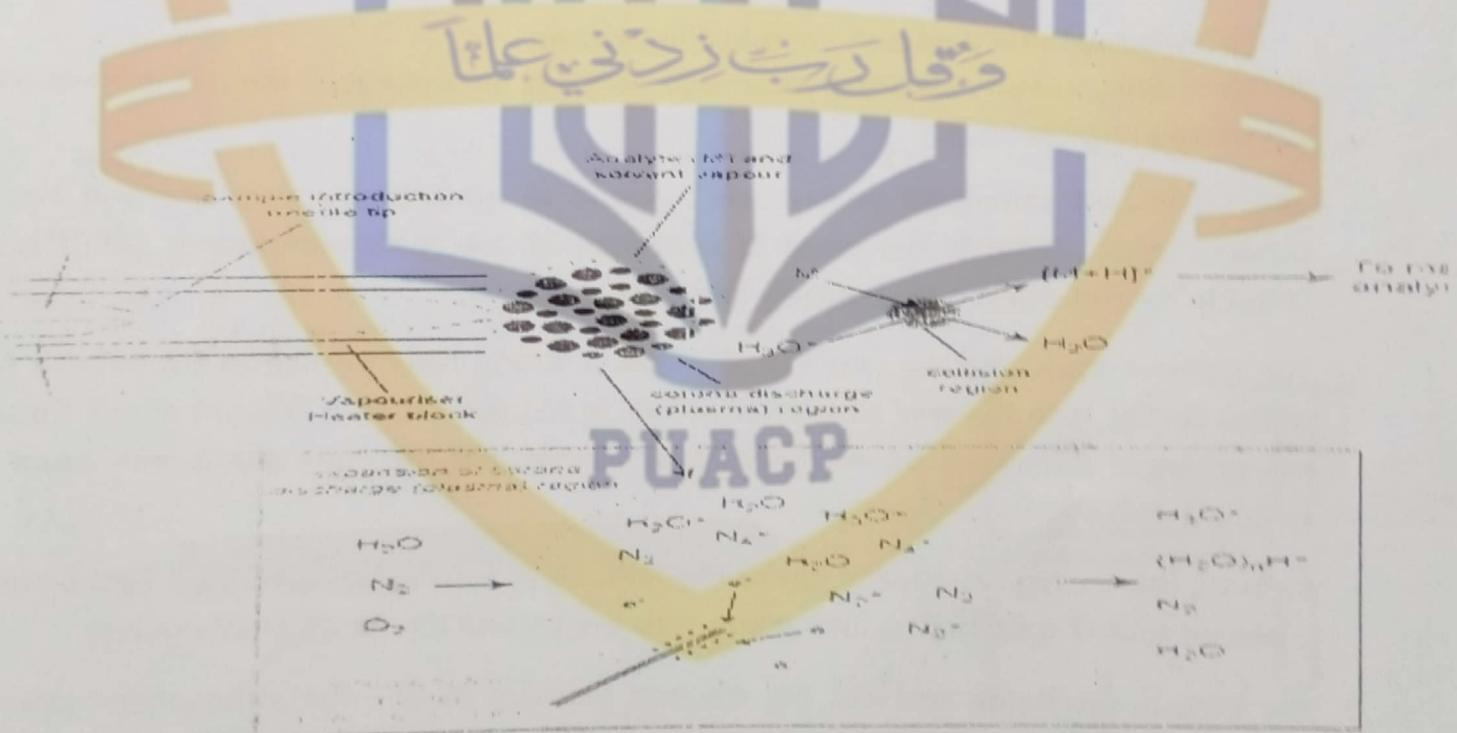

Figure 4 A more detailed view of the mechanism of APCI
- These primary ions collide with the vaporized solvent molecules to form secondary reactant gas ions - e.g. H_3O^+ and $(\text{H}_2\text{O})_n^{\text{H}+}$ (see Fig. 4). These reactant gas ions then undergo repeated collisions with the analyte resulting in the formation of analyte ions.